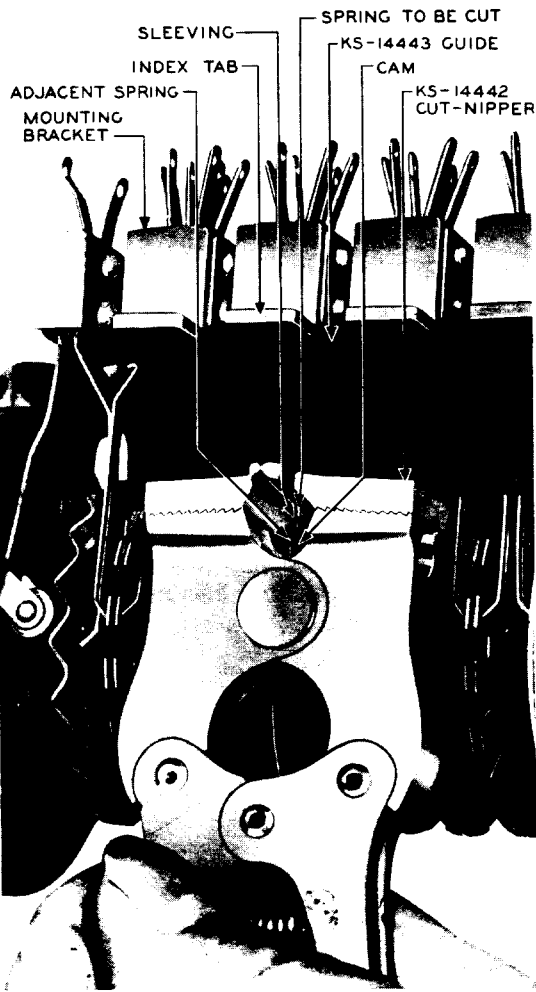

Fig. 1 - Method of Cutting Worn Outer Spring Tips
3.04 With the guide properly located as described in 3.02, and the sleeving in place as covered in 3.03, place the jaws of the KS-14442 cut-nippers over the spring the tip of which is to be replaced and push the jaws back against the guide as shown in Fig. 1.